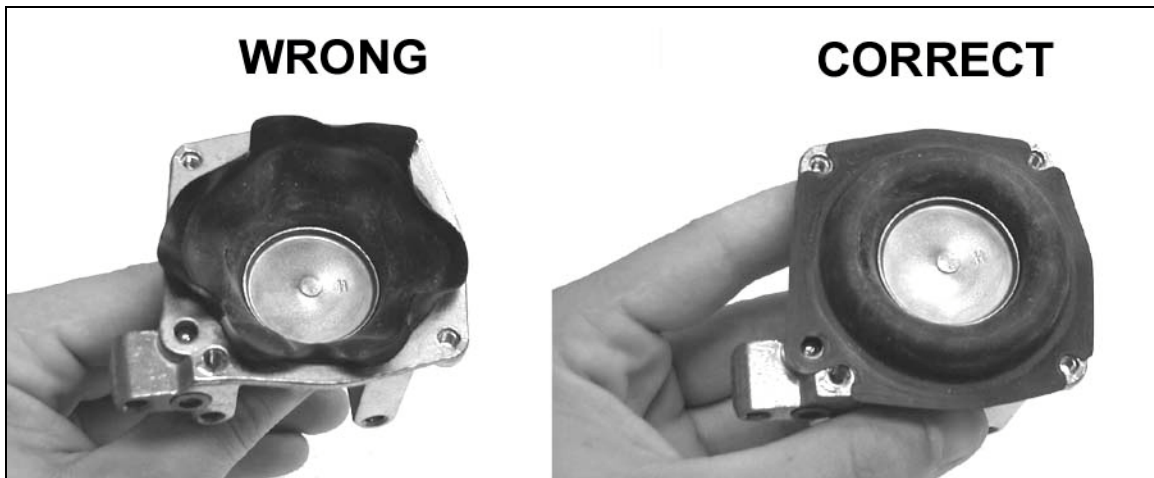

Figure 17
**TIP:** To make reassembling the diaphragm easier, extend the diaphragm into the housing and form the diaphragm into a "mushroom" shape (Figure 17). Then position the diaphragm over the bolt holes and vacuum port. Hold the diaphragm in that position with your fingers while inserting the spring, cover, and bolts to avoid disturbing the position of the diaphragm.